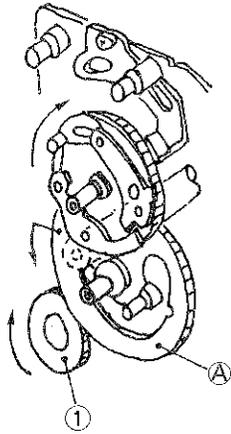
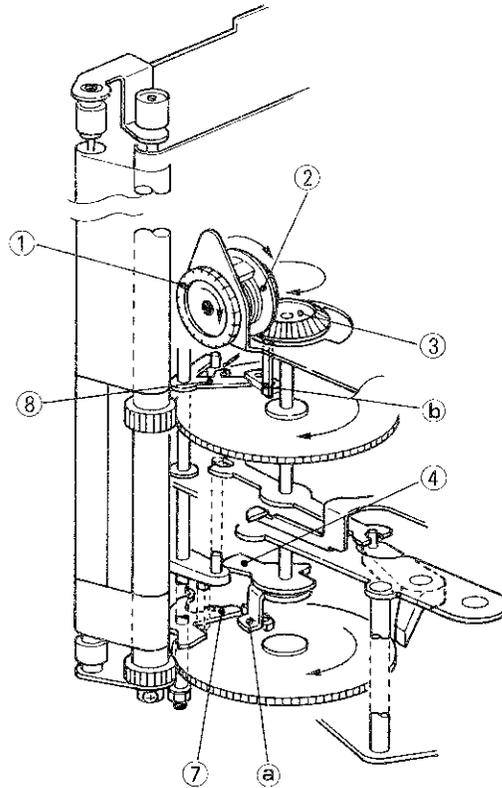
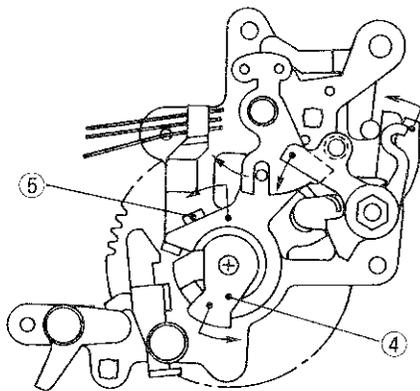
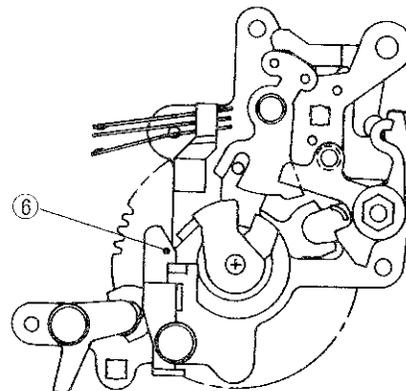

Fig. 13
Fig. 14
Fig. 15-1
Fig. 15-2
1. ①, ② and ③ (Fig. 14), receiving ④ S2 gear rotation (Fig. 13), rotate in the arrow direction and claw ④ (Fig. 14) of ④, ④, ④ pushes the claw of 1st curtain charge gear, and ④ pushes that of 2nd curtain charge gear, thus rotating, when while winding up the shutter curtain, they are set to stop levers ⑦, ⑧. At the same time, charge claw 4 pushes the hook unit (Fig. 15-1) of 1st curtain start lever ⑤, whereby it is in mesh with 1st curtain claw ⑥ (Fig. 15-2), thus charging each interlocking unit.